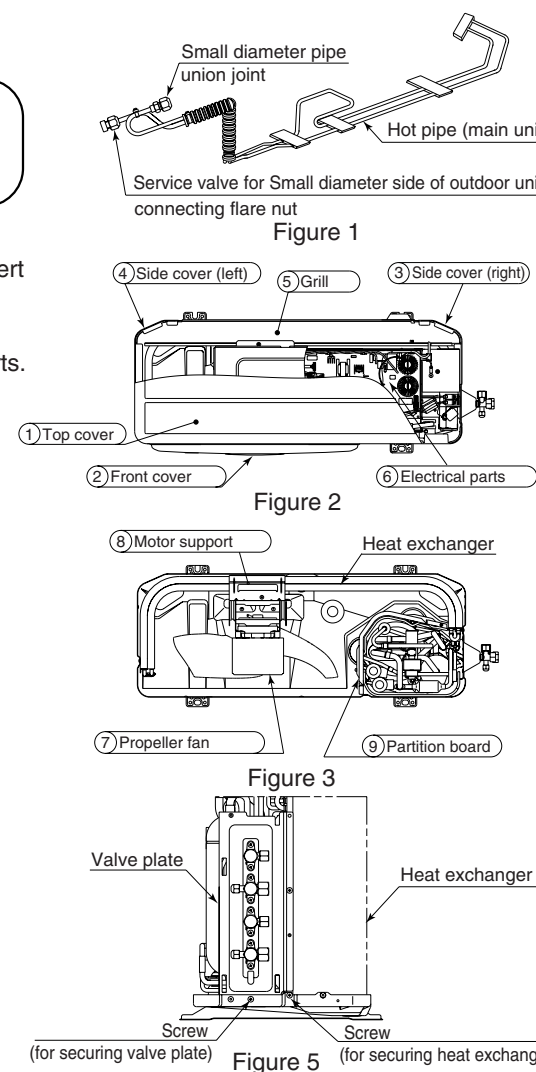

Figure 5
6. Remove the securing screws of the heat exchanger (one screw each on left and right) and the valve plate (one screw) to the base (refer to figure 5).